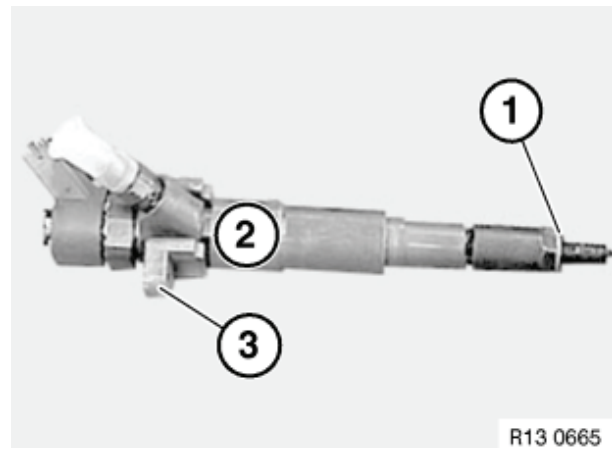

Figure 6-15
3. Install new gasket (Figure 6-15, (1)) on tip of injector (Figure 6-15, (2)).
4. Place the retainer (Figure 6-15, (3)) on the injector as shown.